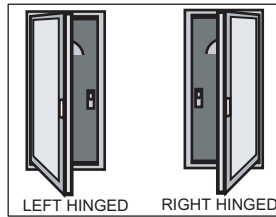

FIGURE 2
A. From outside of door, determine if your door is a right hinged or a left hinged door. See Fig. 2.